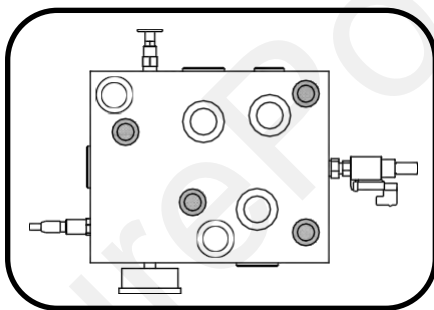

Figure 4.29
- 3) Place control valve bodies in position and secure with appropriate length 3/8" hex head cap screws and nuts. Torque to 100 ft-lb. (Fig 4.29)